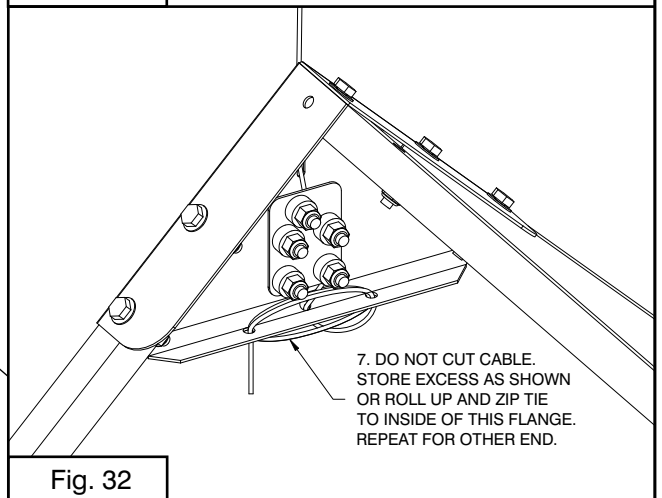

Fig. 32
**8-7.** You don't need to cut the excess cable, you can thread it through the two holes in the bottom of the leg bracket (Fig. 32) or you can wind it into a coil and zip tie it inside the bracket. If you do cut off the excess cable, you must leave at least a foot so that you can re-adjust the cable if it becomes necessary.